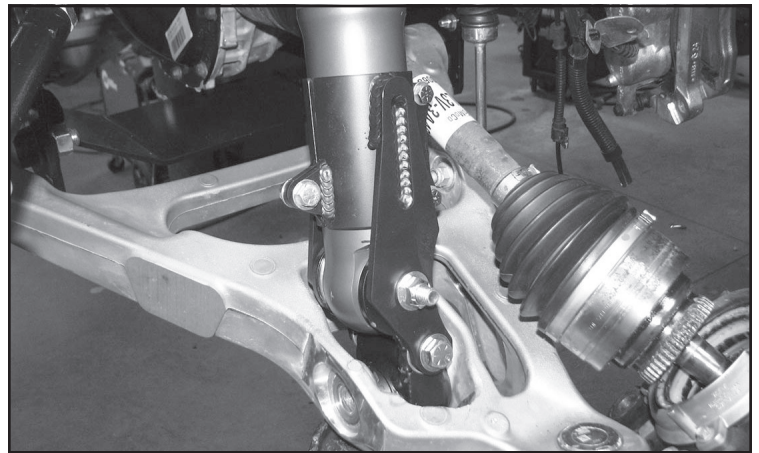

FIGURE 30 - STEP 31
31. Rotate the lower control arm up and mount to the lower coilover mount using the factory hardware. Torque to 127 ft-lbs. **SEE FIGURE 30**